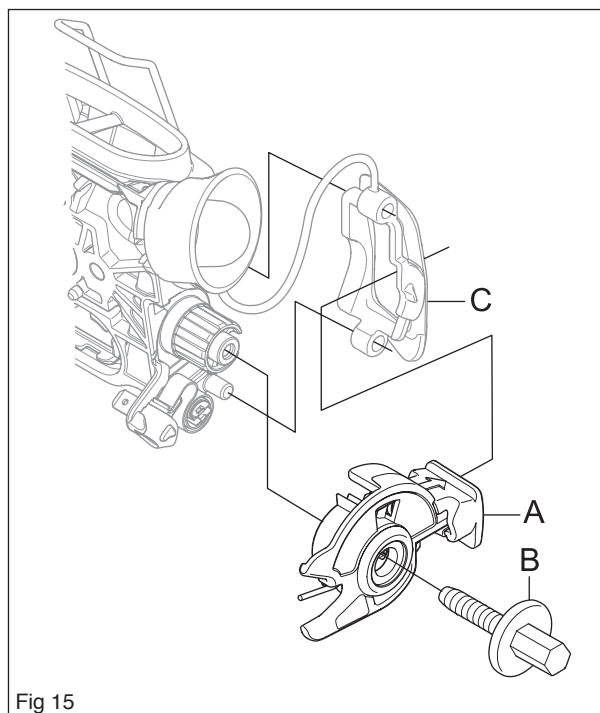

Fig 15
Fit the new stop control (A) and tighten screw (B) in place at a torque of 1 Nm. Slide in the stop control in the rubber sleeve C and hook the sleeve on the guide taps. See figure 15.